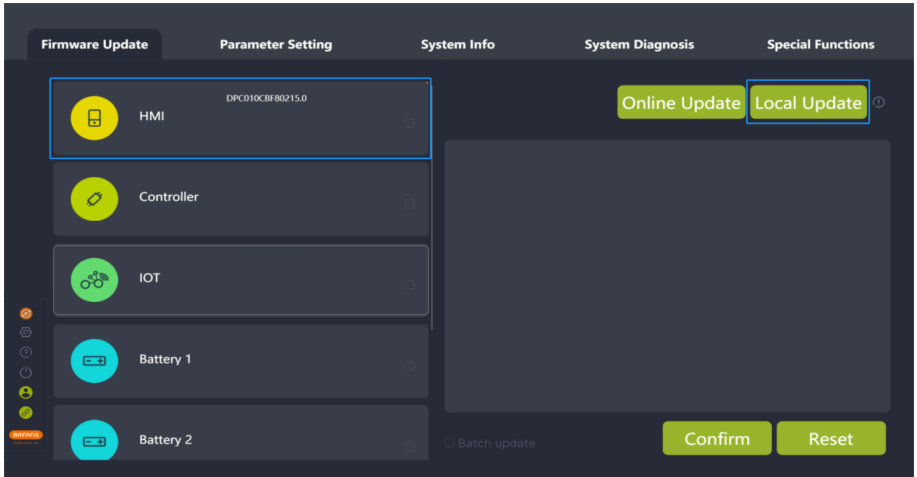

Fig 4-12 Local update
- Local update: Click "Local Update" to select the firmware to update locally. (Figure 4-12).